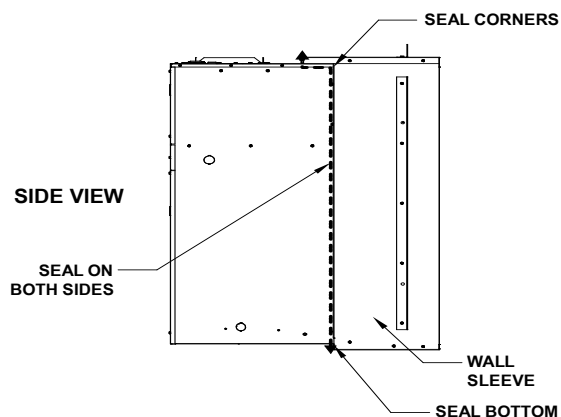

Figure 13 Wall Sleeve Seal
2. Attach the bracket to the FIRST-PAK unit and the wall sleeve using the screws supplied with the wall sleeve. Refer to **Figure 13- Wall Sleeve Seal** below.
7. Inspect the sleeve seal, which is supplied with the sleeve, to ensure that it is properly secured and aligned (see **Figure 13- Wall Sleeve Seal**).